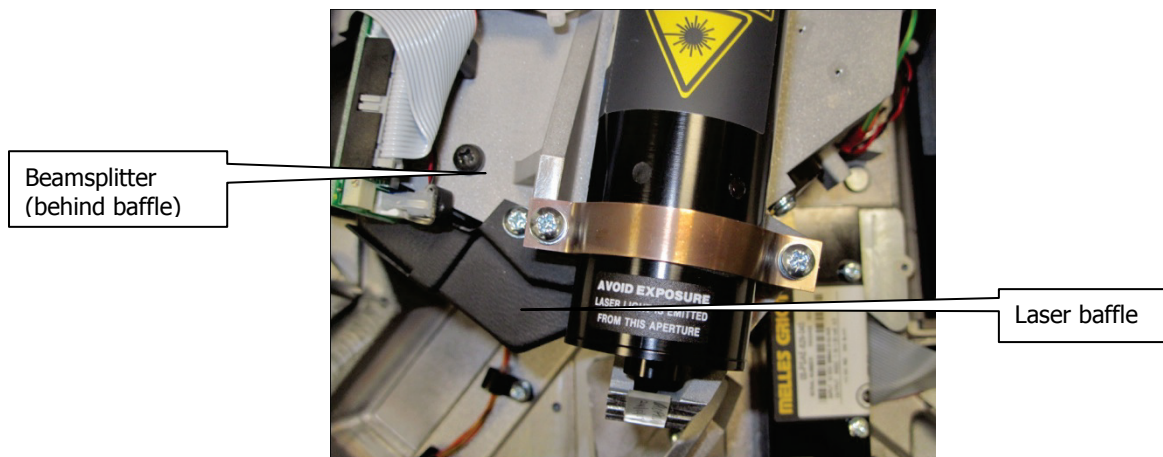

Figure 43 Beamsplitter location
1. Open the main cover of the instrument, as detailed on page 70 and identify the Beamsplitter, which is behind the laser baffle (Figure 43).